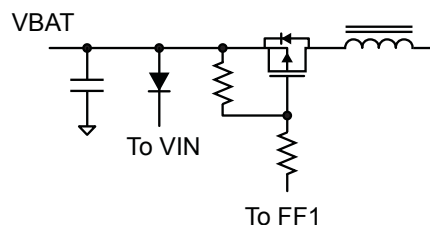

Figure 3. Example of a supply isolation MOSFET
The FF1 output can also be used with pull-up resistors and a P-channel MOSFET in the supply, to isolate the switching elements and the load from the supply. This MOSFET should be connected, as shown in figure 3, with the source connected to the supply and the drain connected to the inductor of the converter.
**Reverse Supply Protection** Protection for the A6267 is provided by an external low current diode between the supply and the VIN pin, as shown in the Functional Block Diagrams section. The isolation MOSFET shown in figure 3 is only able to provide isolation when the supply polarity is correct. However, with an additional P-channel MOSFET, it is also possible to provide reverse battery protection to the switching elements and the LEDs. The additional FET should be connected, as shown in figure 4, with the drain to the supply and the source to the source connection of the original isolation MOSFET.
In the complete circuit, consideration should be given to limiting the maximum gate-source voltage of the FET. If the supply voltage is likely to exceed 20 V, then either: a Zener clamp must be added in parallel with the gate-source resistor to prevent damage to the FET, or a second resistor added as shown in figure 3.